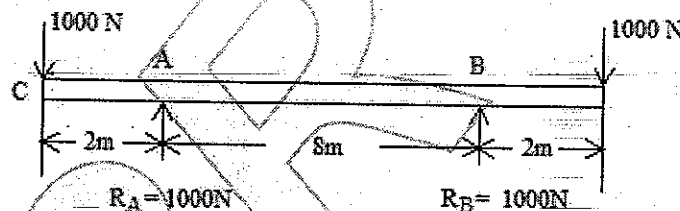

Figure: 1
b) A beam of length 12 m is simply supported at two supports which are 8 m apart, with an overhanging of 2 m on each side as shown in figure 1 below. The beam carries a concentrated load of 1000 N at each end. Draw SF and BM diagrams. [6+9]